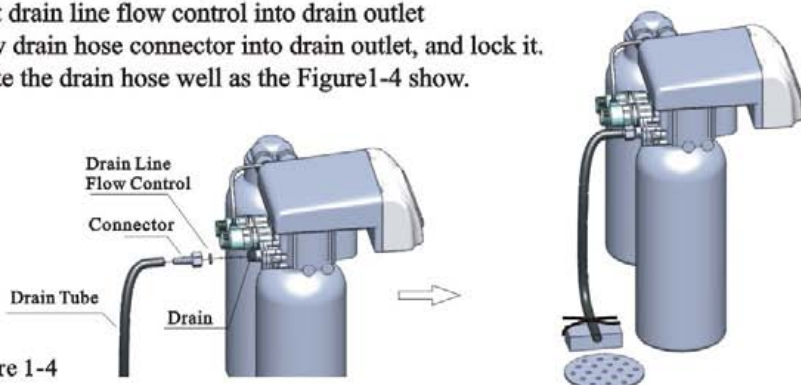

Figure 1-4
⑤Install drain pipeline
- As the Figure 1-4 shows, slide the drain hose connector into drain outlet.
- Locate the drain hose well as the Figure1-4 show.
- Be sure not connect drain with sewer, and leave a certain space between them, avoid wastewater be absorbing to the water treatment equipment, such as showed in the Figure1-4.